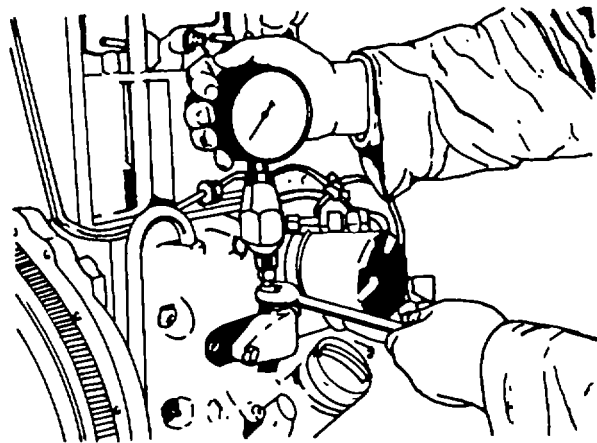

Figure 4-54. Injection Pump Tester Hookup
- a. Disconnect injection line(s) on the fuel injection pump. Evacuate the air from the fuel injection pump. Connect the tester to the pump element to be checked (figure 4-54).